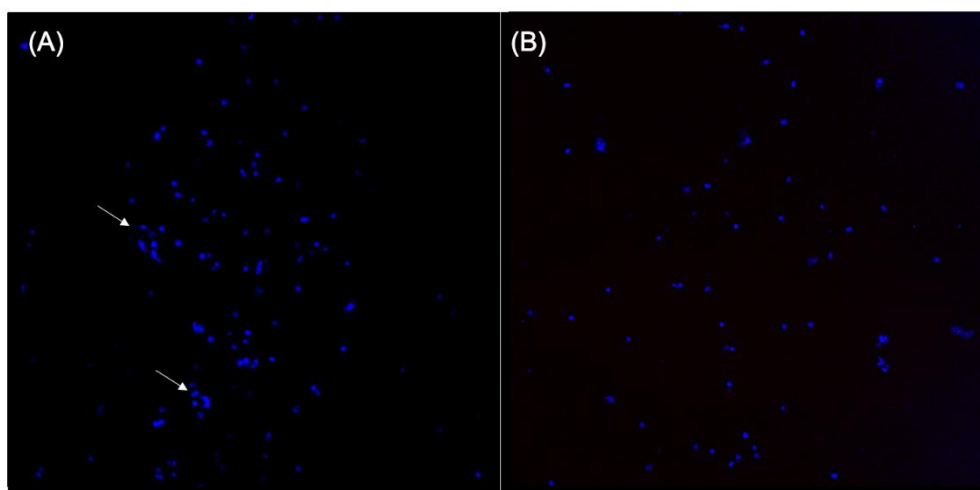

Figure 2. Examples of isolated nuclei stained with DAPI illustrating (A) areas of nuclei clumping and (B) evenly distributed, single nuclei
5. Use a haemocytometer and an epifluorescence microscope to estimate yield and visualise the spread of nuclei. The nuclear suspension should be evenly distributed, appear as single nuclei and free of large debris (see Figure 2 for examples).